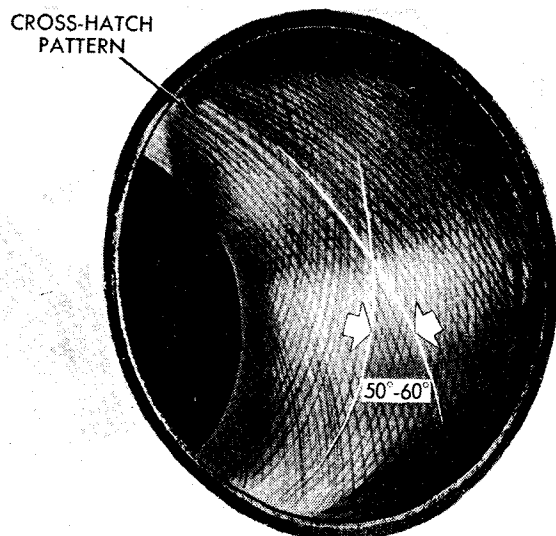

Fig. 27—Cross Hatch Pattern
(1) Used carefully, the cylinder bore resizing hone C-823, equipped with 220 grit stones and 390 extensions necessary for 413 cubic inch engines and honing oil C-3501-3880, is the best tool for this job. In addition to deglazing, it will reduce taper and out-of-round as well as removing light scuffing, scoring or scratches. Usually a few strokes will clean up a bore and maintain the required limits.
(2) Deglazing of cylinder walls may be done using a cylinder surfacing hone. Tool C-3501 equipped with 280 grit stones (C-3501-3810). 20-60 strokes depending on the bore condition will be sufficient to provide a satisfactory surface. Inspect cylinder walls after each 20 strokes. Use honing oil C-3501-3880 or a light honing oil available from major oil distributors. **Do not use engine or transmission oil, mineral spirits or kerosene.**
(3) Honing should be done by moving hone up and down fast enough to get a cross-hatch pattern. When hone marks intersect at 60 degrees, cross hatch angle is most satisfactory for properly seating rings (Fig. 27).
(4) After honing, it is necessary that the block be cleaned again to remove all traces of abrasives.